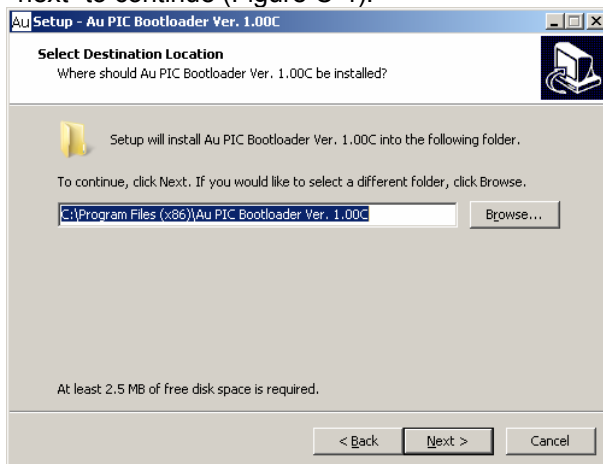

Figure C-4
4. "Select Destination" window shows up, use default path: C:\Program Files\ AU PIC Boot-loader", then click "next" to continue (Figure C-4).